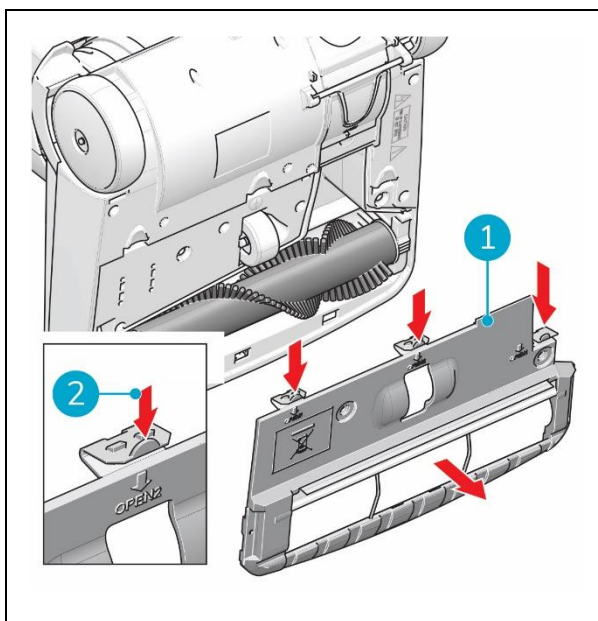

Figure 25
3. Press down the three clips (Figure 25, pos 2).
4. Take out the cover plate (Figure 25, pos 1).
8. Place the cover plate (Figure 25, pos 1) back, place the bottom three nocks first in position.
9. Close the cover plate. When the three clips (Figure 25, pos 2) click into place, it is locked.